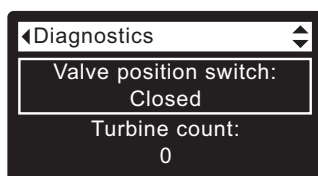

FIG. 99
2. Press the DOWN (▼) button to scroll through the list until **Valve position switch** is displayed (See Figure 99).